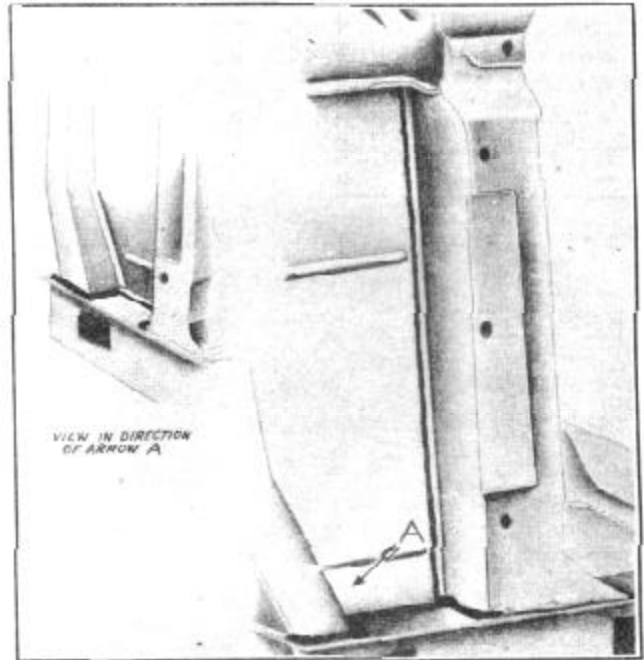

FIGURE 136
In Figure 136, the fender has been removed for ease of illustration; however, it is not necessary to remove the front
3. Apply a heavy bead of Auto Body Deadener to the vertical joint between the cowl panel and pillar flange and at the base of cowl panel to frame and pillar to frame as shown in Figure 136.